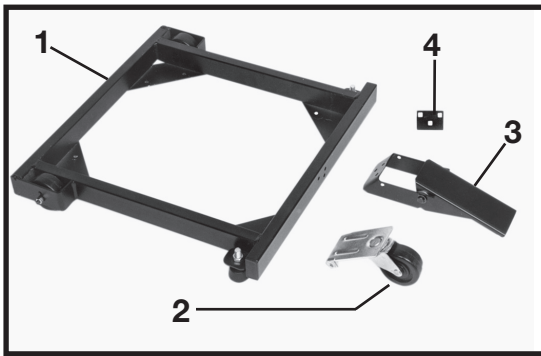
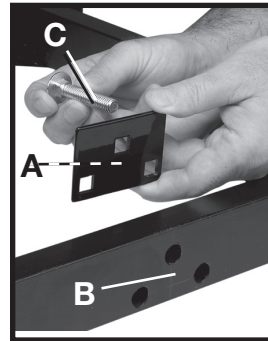
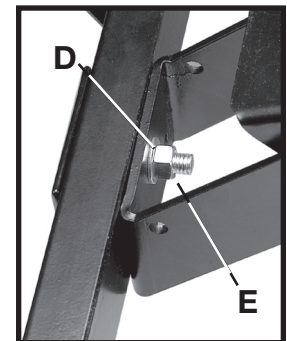

Fig. 1
Fig. 3
Fig. 4
1. Align the three holes in the support plate (A) Fig. 3 with the three holes (B) in the mobile base and the foot lever assembly (3) Fig. 1. Insert a 3/8-16 x 2" carriage head bolt (C) Fig. 3, through the support plate, the mobile base, and the foot lever assembly. Place a 3/8" flat washer (D) Fig. 4 on bolt and secure with a 3/8-16 hex nut (E). Repeat this process for the two remaining holes in the support plate, the mobile base, and the foot lever assembly.